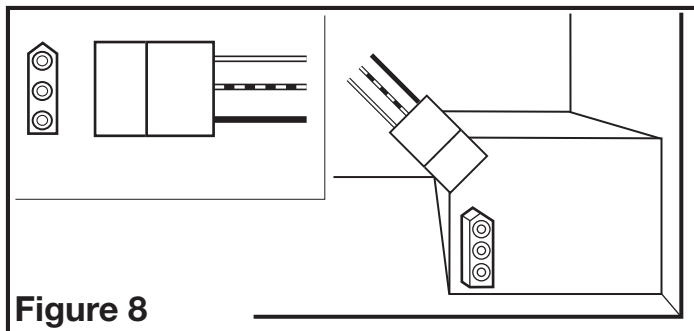

Figure 8
- Plug the fan's quick connect motor cord into the receptacle. This cord will only fit one way into the receptacle (Figure 8).